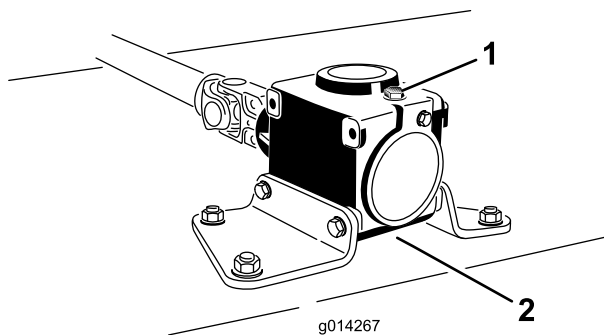

Figure 42
6. Remove the dipstick/fill plug from the top of the gear box (Figure 42) and make sure that the lubricant is between the marks on the dipstick.
6. Remove the dipstick/fill plug from the top of the gear box (Figure 42).